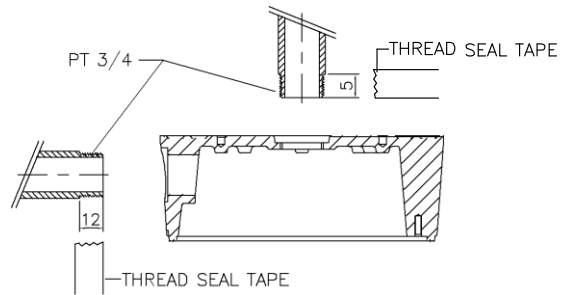

FIG. 4
2. When you use pipe, please note the standard size of pipe. (FIG.4)